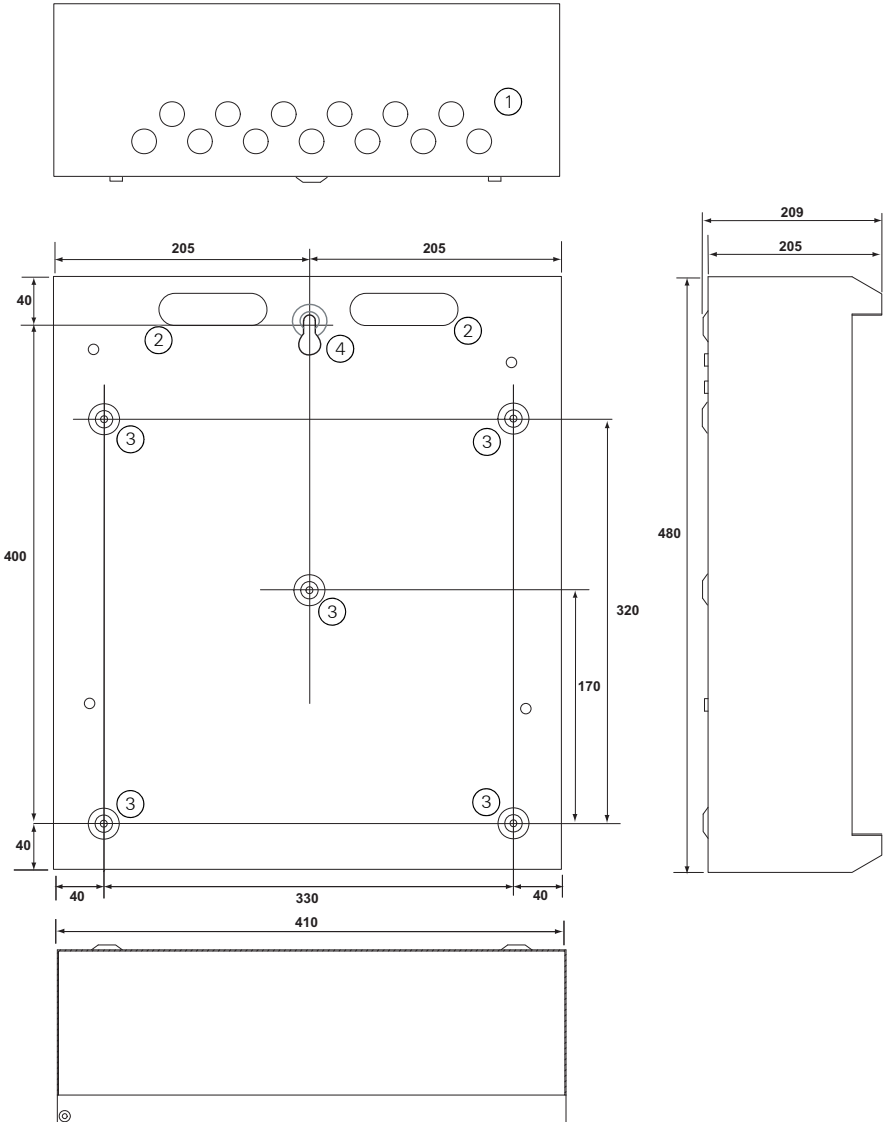

Fig. 5: Overall and Fixing Dimensions – ANC3(-D)
- 5 For the upper (centre) mounting hole, mark on the wall the drill hole position. This mounting hole is Item 4 in Fig 5 on page 7 (for example). Now drill and plug this hole.